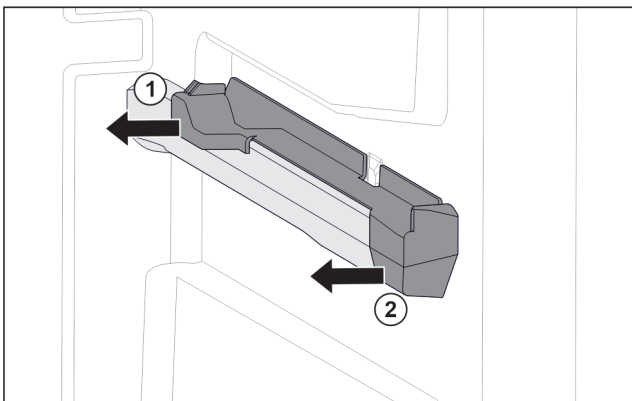

Fig. 46 Attachment on the right molded rib
- ▶ Pull off attachment at the back sideways. Fig. 46 (1)
- ▶ Pull off attachment at the front sideways. Fig. 46 (2)